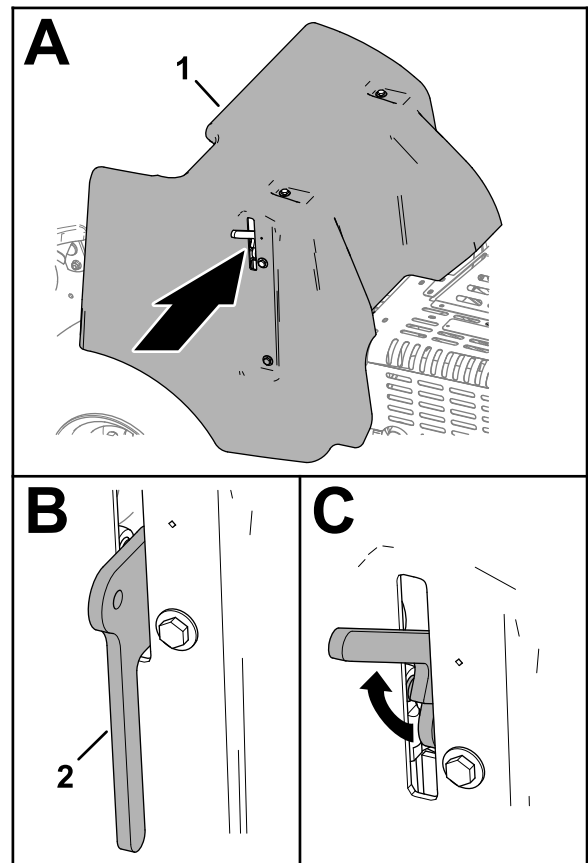

**Figure 130**
1. If your machine has the CE belt-cover latch lanyard, loosen the lanyard bolt until it separates from the cover latch (Figure 130).